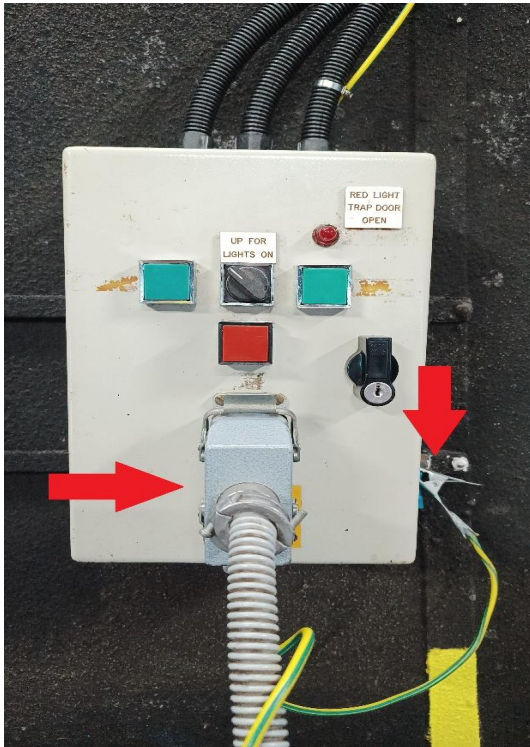

Fig. 2: Plug/Earth connected to Dome Control Box
b) If the bulky metal plug on the flexible metal conduit is not plugged into the Dome Control Box you can now plug it AND attach the earthing wire clip to the side of it as fig. 2.